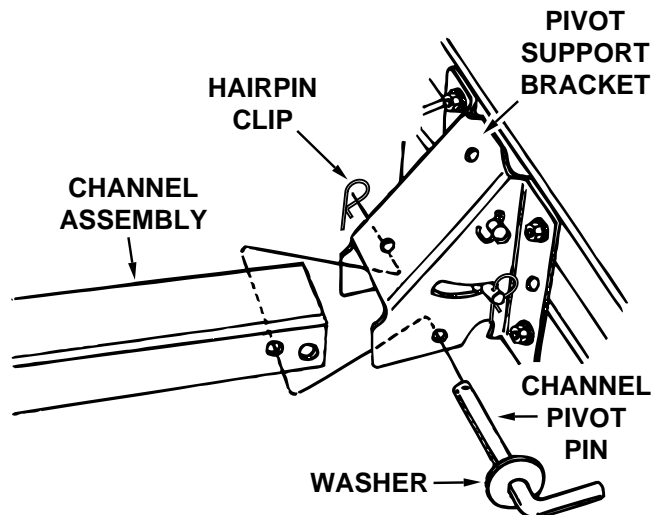

Figure 3
6. Remove the channel pivot pin, washer and hairpin clip from the pivot support bracket. Attach the channel assembly to the tractor by placing the end of the channel inside the pivot support bracket. Insert the channel pivot pin through the holes in the pivot support bracket and the channel. Secure with the hairpin clip. See figure 3.